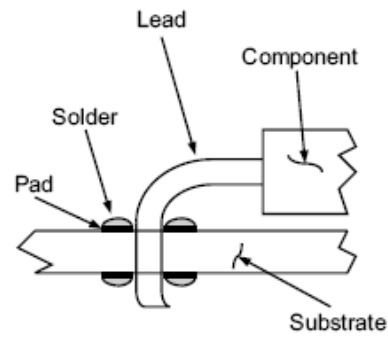

Fig. 8 Non-wetting Solder Joint
- Non-wetting: Solder may not adhere to the leads or terminals of a device if the plating thickness is too thin. This problem especially applies to axial-leaded devices since the solder must bridge across the through-hole from the pad to the lead (Figure 8)